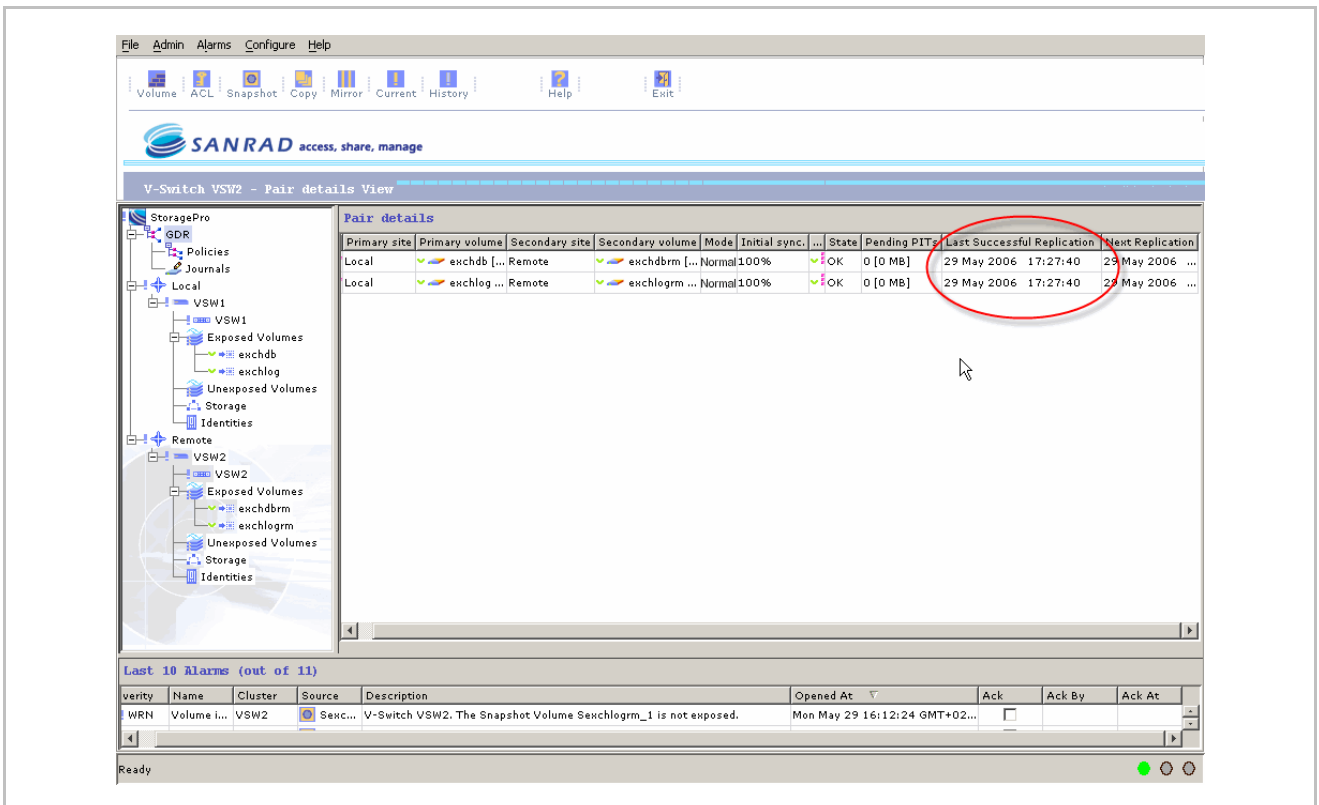

Figure 3. Last Successful Replication
3. Check when the last successful replication was (see Figure 3). Compare it to the next replication column and to the replication policy.